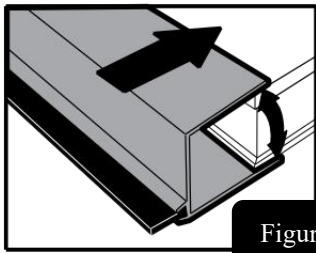

Figure 15
**Step 1:** Slide the expander onto the door. (Figure 15)